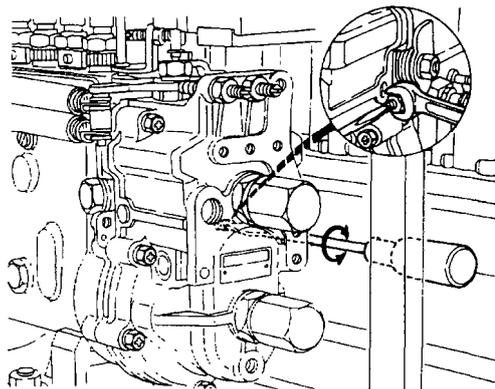

Figure 123 Full-load Setting Bolt Adjustment
- x.** Set the pump speed to 1 120 , adjust the full-load setting bolt to bring the control rack to 11.3 mm and tighten the locknut (Figure 123).